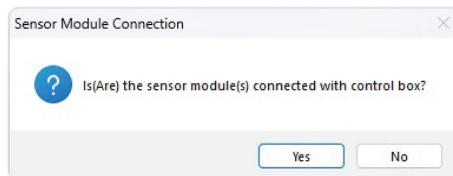

Figure 17. Select RS485 from the drop down menu
- Next, click “No” button as in Figure 17.